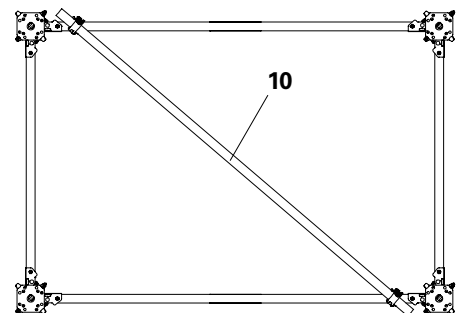

Fig. A3.05
- For towers with heights > 7.0 m, a scaffold tube Ø 48.3 x 3.2 is to be attached to the MRK frames as a horizontal brace (**10**) by means of swivel couplings at around half the tower height to safeguard the cross-sectional form. (Fig. A3.05)
1. Brace the tower in the centre with a horizontal brace, see Fig. A3.05.